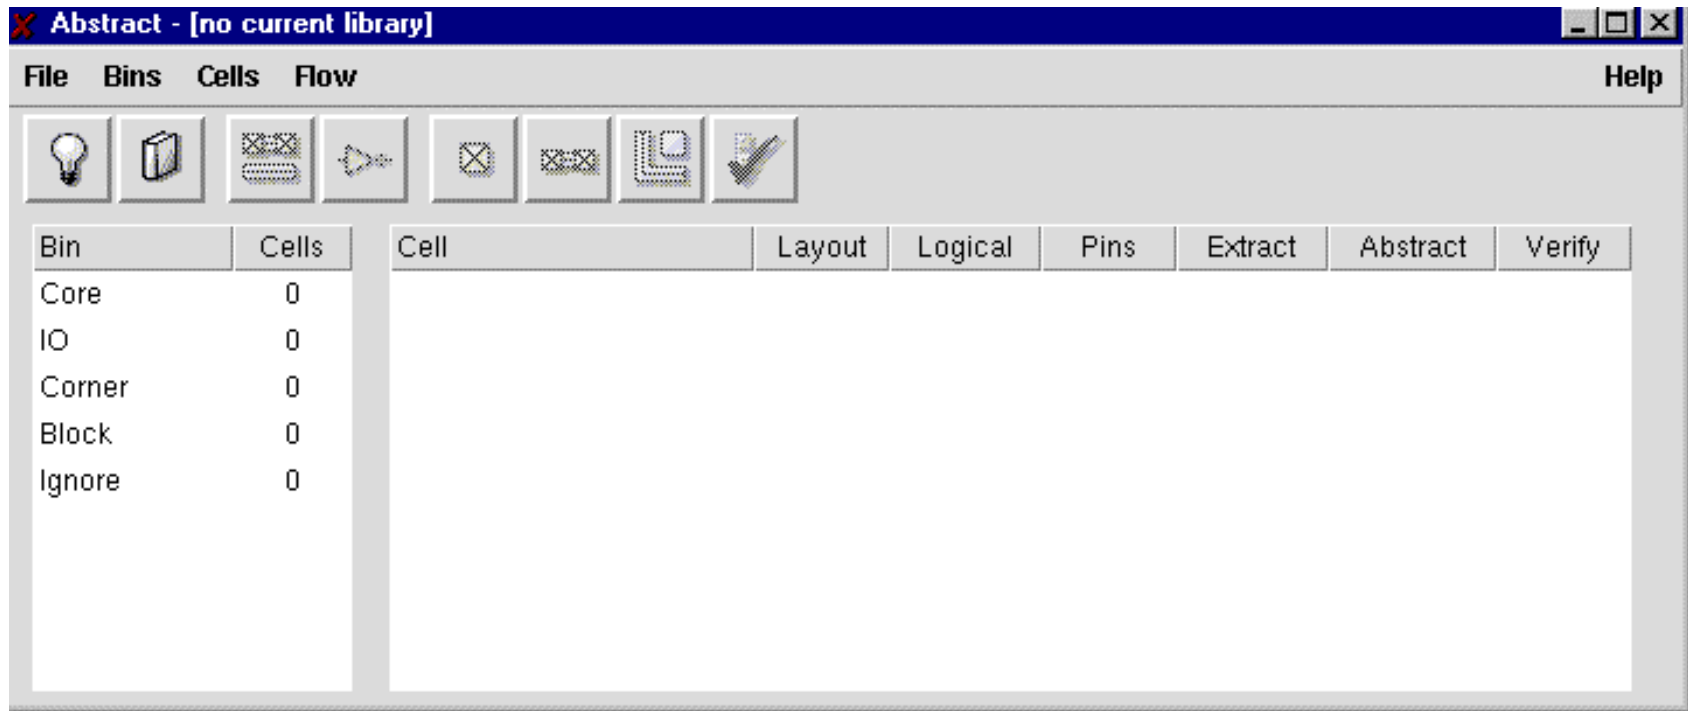

Figure 4: Abstract Generator's Main Window
- You should see the figure 4 again with no changes